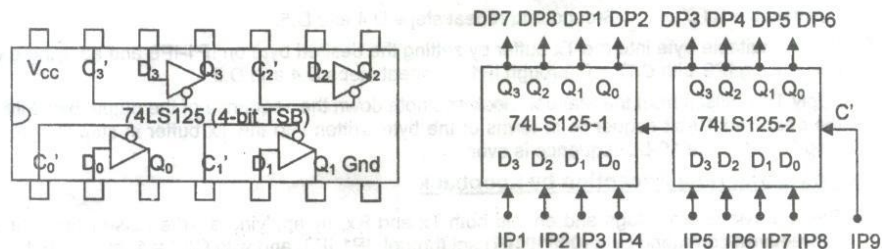

Fig. 1.1 Tri-State Buffer
- Set up an 8-bit Tri-State Buffer (TSB) using two 74LS125 ICs, with the TSB input connected to Input Switches IP1-IP8, a common control C' = C₃' = C₂' = C₁' = C₀' for both the chips applied through Input Switch IP9, and the TSB output connected to the LED Display Points in the order shown in Fig. 1.1. The reason for connecting the LEDs in this strange manner at this stage is that DP7 and DP8 will later be disconnected from the TSB output, leaving only DP1-DP6 connected to the lower 6 bits.